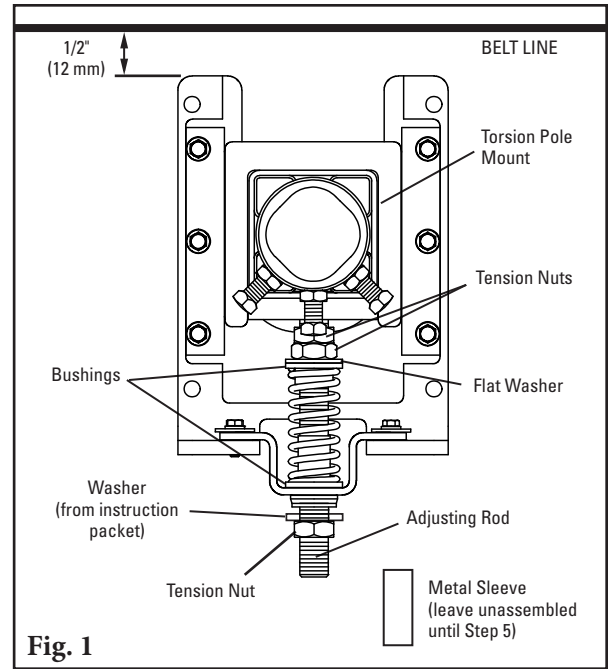

Fig. 1
- 1. Reconfigure the standard pull-up tensioner to the push-up style.** Remove the 3 tension nuts, flat washer, 2 bushings, spring, sleeve and hat bracket; reassemble (Fig. 1) with 2 tension nuts, flat washer, 2 bushings, spring and hat bracket on upper end of adjusting rod. Add washer (from instruction packet) and third tension nut to bottom of adjusting rod.
- 2. Install the tensioner mounting bases.** Mount the bases to the structure or chute so that the tops of the base legs are 1/2" (12 mm) below the belt (Fig. 1).